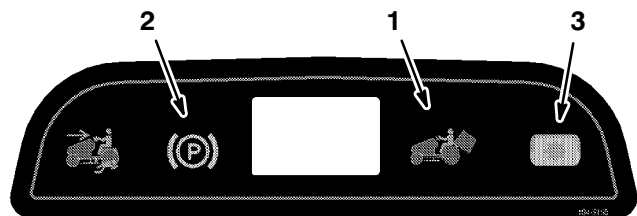

Figure 4
**Note:** The parking brake light on the dash will turn on when the parking brake is engaged (Fig. 4).
**Note:** The PTO light on the dash will turn on when the PTO is engaged (Fig. 4).
When the grass collector is full and needs to be emptied, the warning light will come on (Fig. 4) and a buzzer will sound.